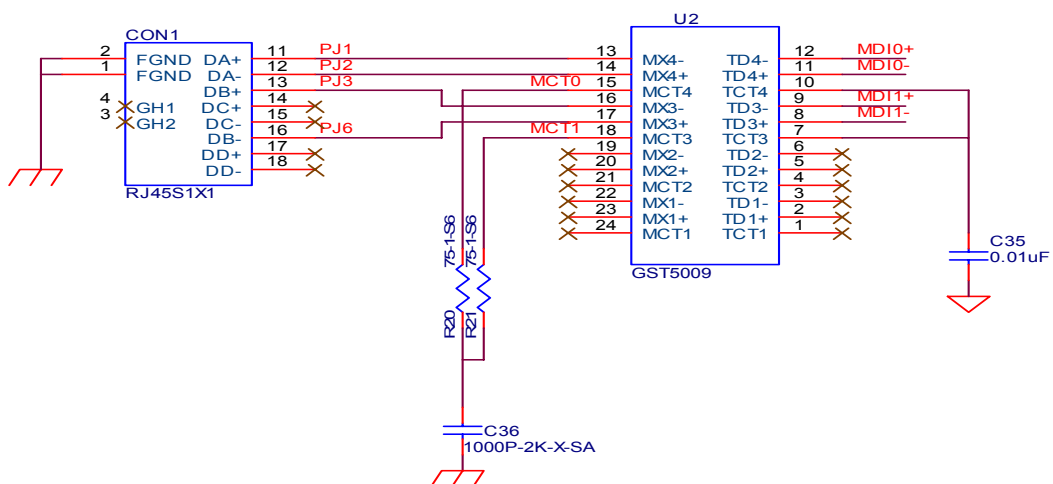

Figure 14. Separate Transformer
- When using a separate transformer, the center-tap MUST be aggregated (pins 10, 7) (C35 Value: $0.1\mu\text{F}\sim 50\text{pF}$) (see Figure 14)